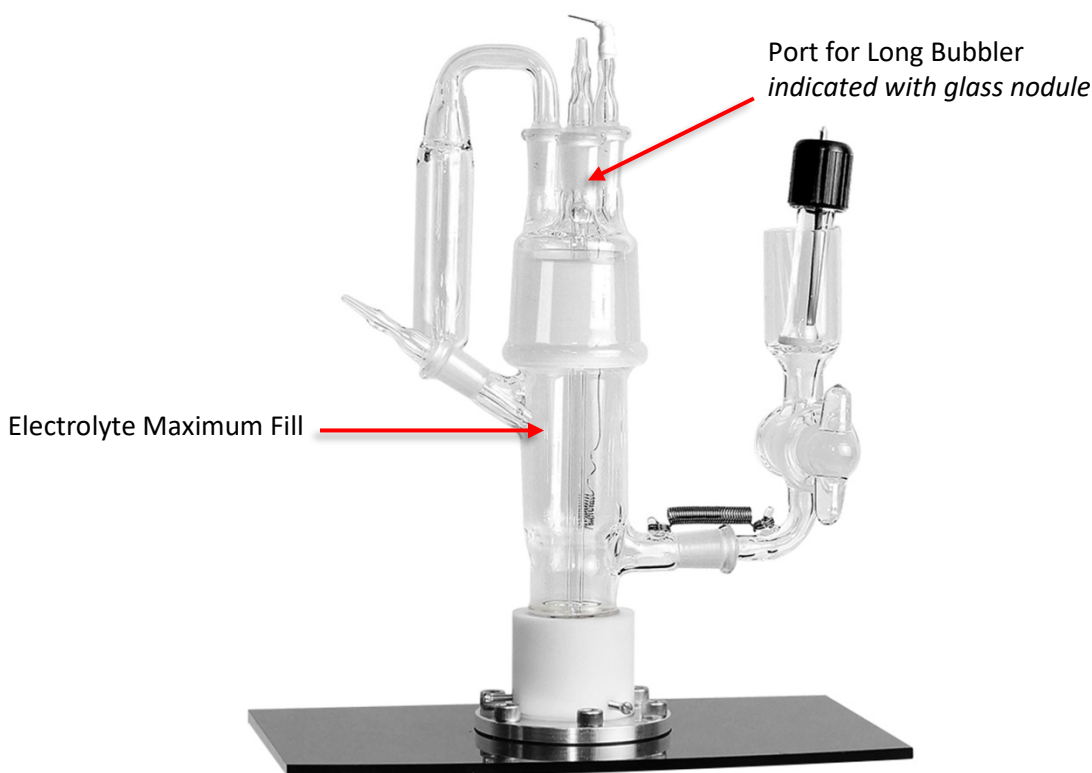

Figure 12. Full J1 cell assembly.
2. After filling the cell with electrolyte place the bubblers, gas trap, and counter electrode in the cell. The port for the long bubbler is indicated with a glass nodule (Figure 12). Best practice is to have the reference arm stopcock closed when first filling the cell with electrolyte and during the subsequent step.